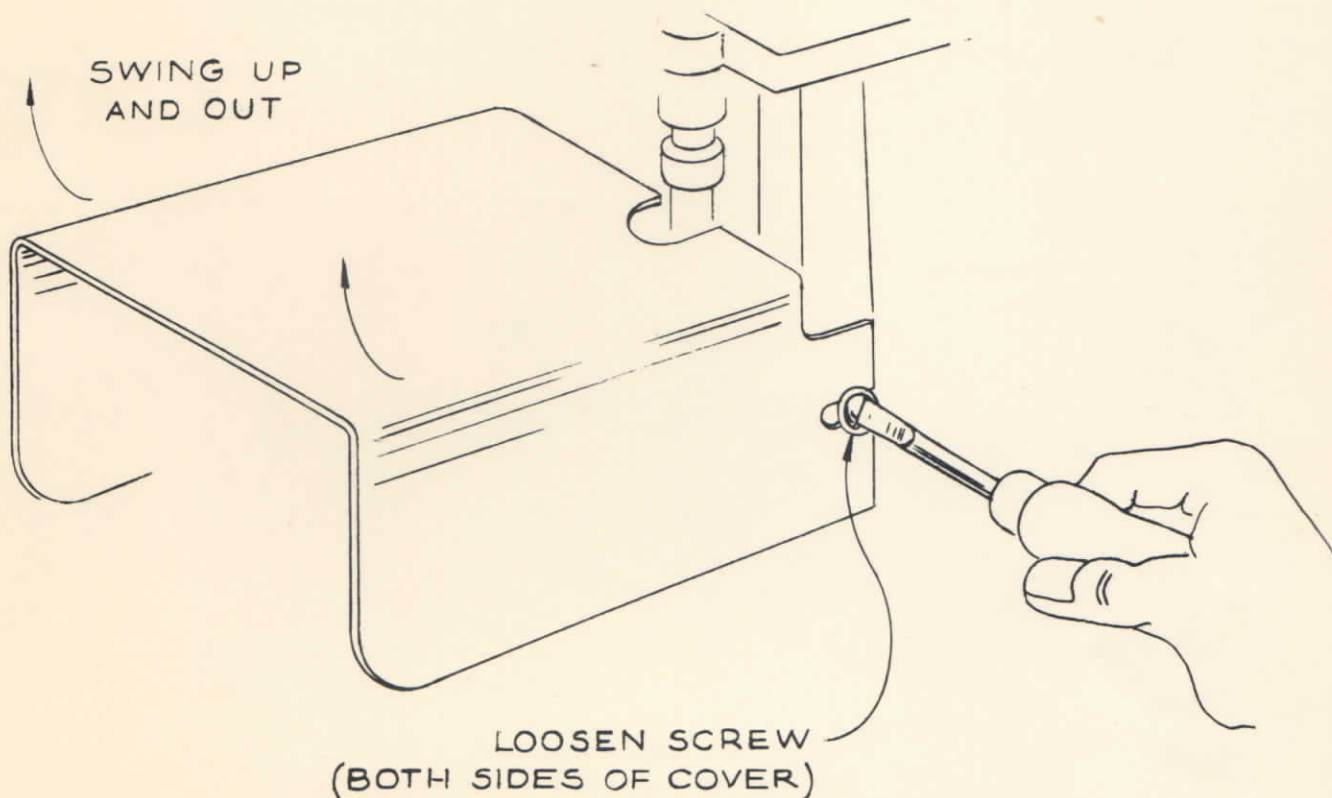

Figure 25
1. Remove plastic cover by loosening one screw on each side and sliding cover out. (Figure 25)